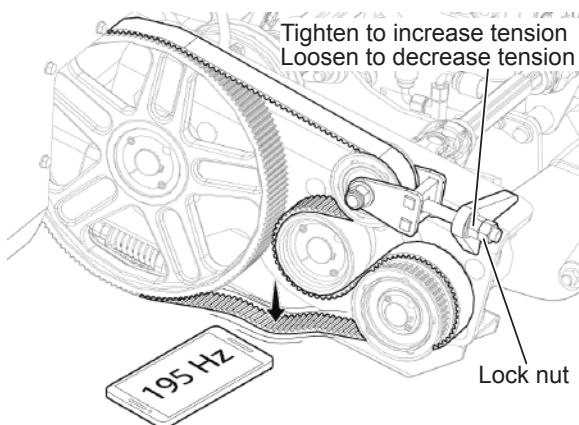

Fig. 147 - Feed Auger Drive Belt Tension Adjustment
5. Take note of the belt orientation and how it is fed through the pulleys. Remove the old belt and install the new belt. See Fig. 147 on page 97 for belt orientation.